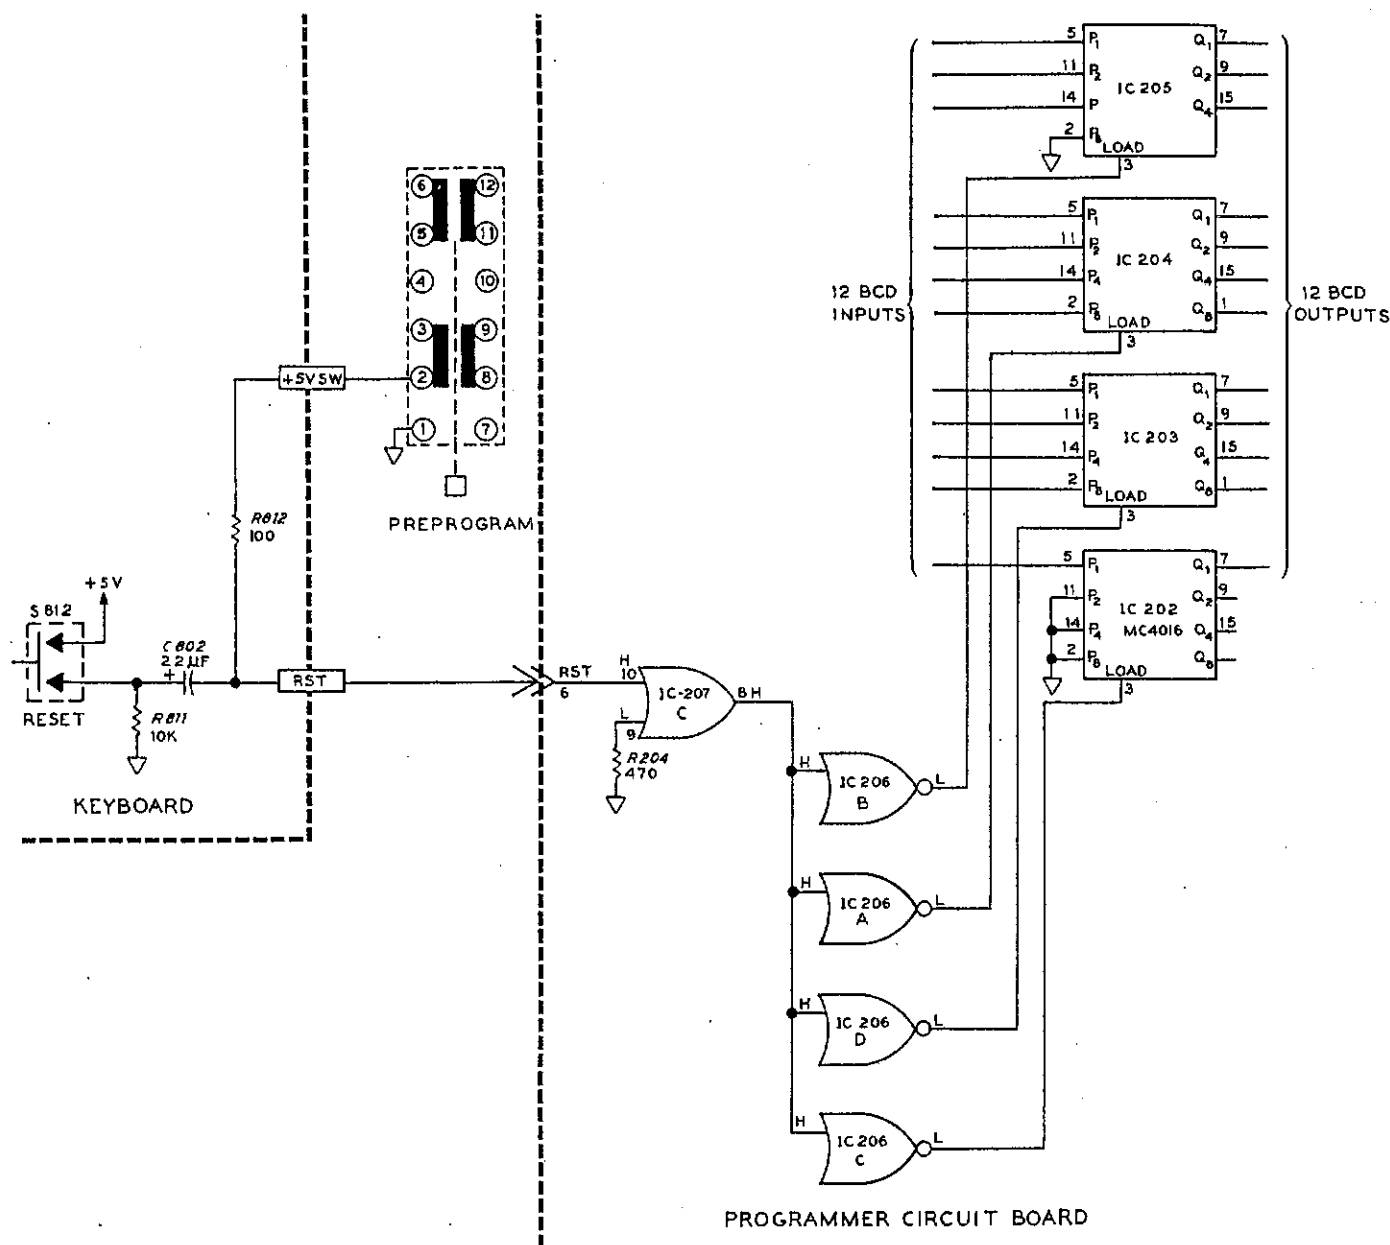

Figure 6-4
The RST (reset) line to the programmer circuit board is normally connected to ground (L) through R812 on the keyboard and the Preprogram switch. In the preprogram mode, however, the RST line is open circuited as shown in Figure 6-4. All of the OR gates of IC207 are internally connected so the inputs assume a high (H) level when they are open circuited. The RST line will then let one input (pin 10) of IC207C assume a high; this results in a high output. A high to one input of each NOR gate (IC206A, IC206B,